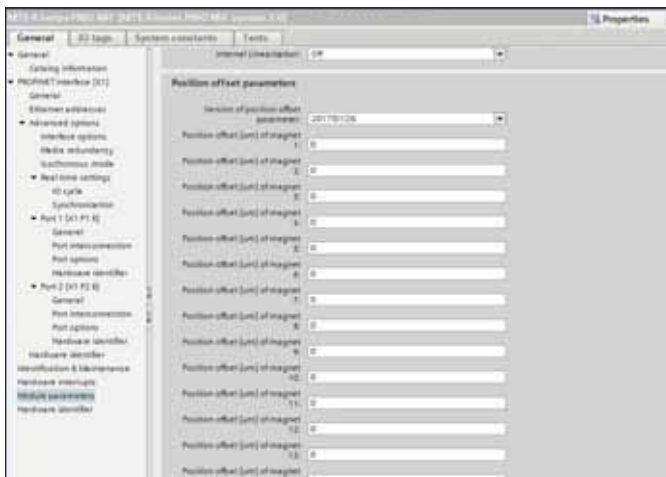

Fig. 42: Setting of the offset
- **Offset:** In the subsection „Position offset parameters“ you can set the offset, a shift of the measurement range start, separately for each magnet – independent of further magnets on the sensor rod/ sensor profile (Fig. 42). You can set the values with a step size of 1 µm in the range between -214...+214 m.